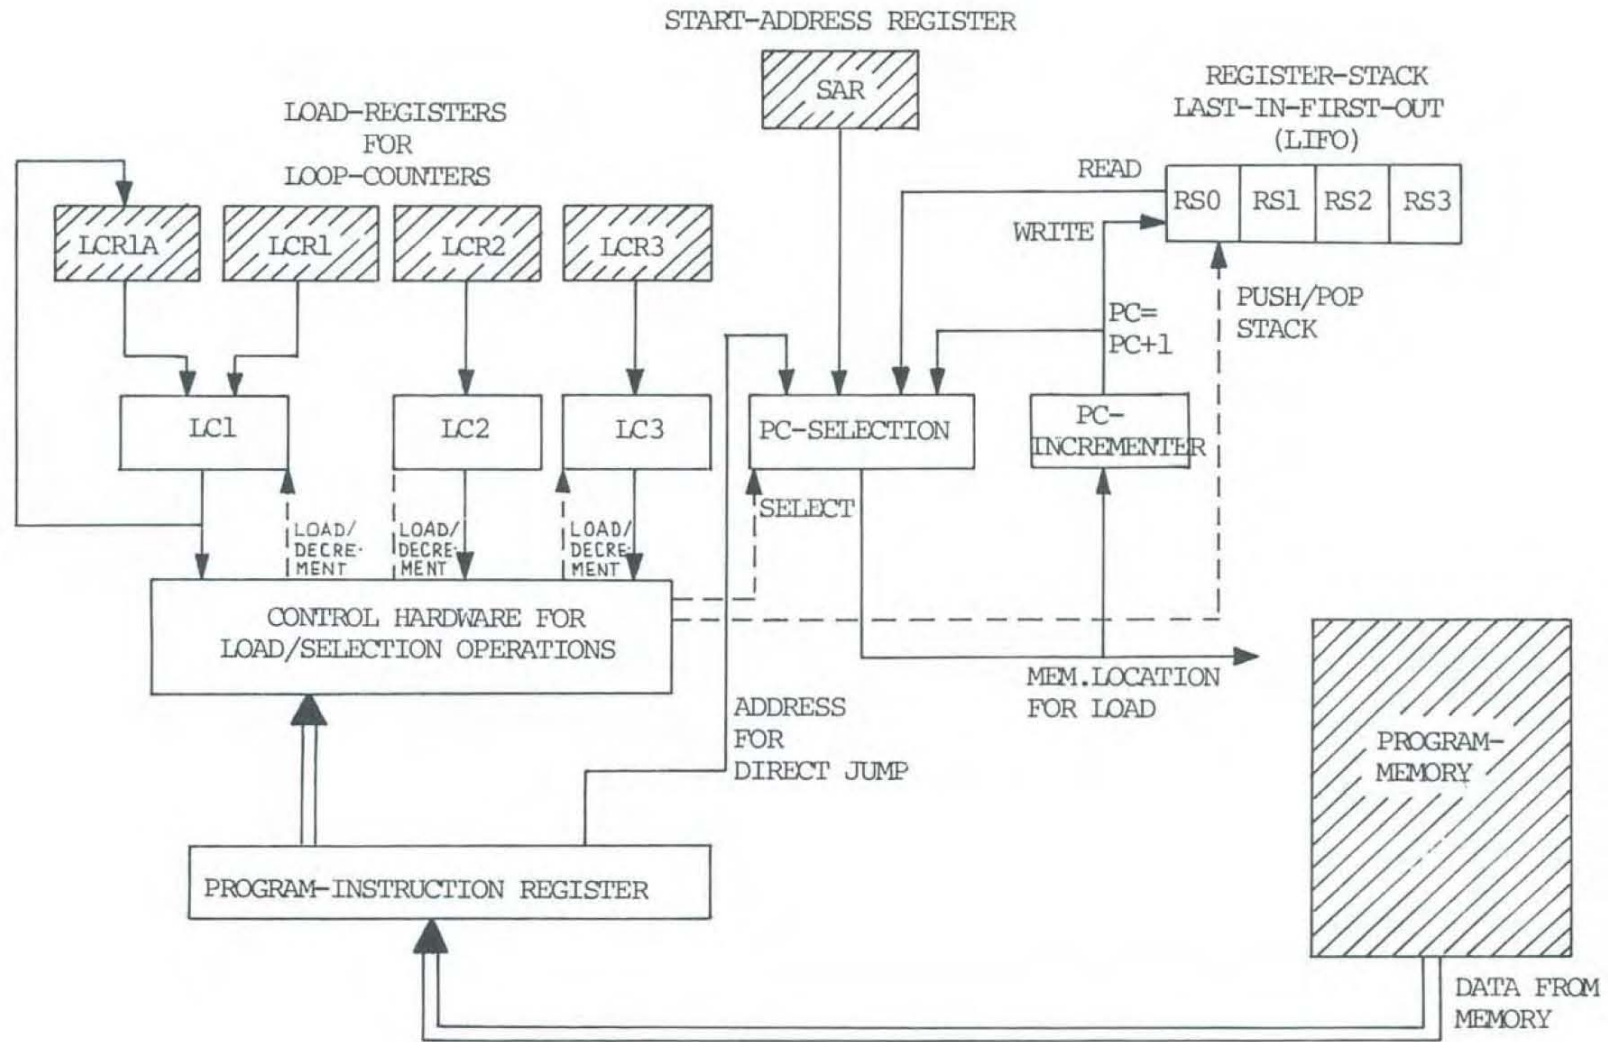

Figure 3. CONTROL LOGIC FOR INTERNAL  $\mu$ -PROGRAM EXECUTION.
Program development with the EISCAT correlator requires "real-time" programming, caused by the necessary interfacing between the different internal processors operated in parallel. The main control unit in the correlator is the hardware for controlling the  $\mu$ -program execution. A programming model of this system is sketched in Figure 3. The program-instruction word read from the memory contains sub-instructions which controls the generation of the next program-location to be read in the next clock-interval. This location is given by the program-counter (PC). Conditional branching in the program is realized by three separate loop-counters (LC1, LC2 and LC3) which are operated in parallel with control from different subinstructions of the program-instruction word. The loop-counters can be loaded from separate load-registers (LCR1, LCR2 and LCR3) located in the data-field. Also a temporary storage-register, LCR1A, can be used for storing values from LC1. A four-level register-stack with LIFO (last-in-first-out) structure for storing address-values (back-loop-branching). The next PC-value can be taken from one of four sources: